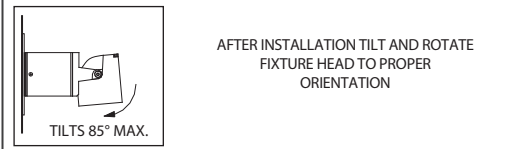

FIGURE 4: CHANGING REFLECTOR (FIG. 4)
- FIGURE 2: CHANGING REFLECTOR (FIG. 4)**
- Remove fixture from mounting surface. Point fixture (A) downward and then lightly press and turn Trim (D) counterclockwise to unscrew and remove Trim (D) with Glass (C) and Reflector (B) from fixture housing (A).
- Twist Reflector (B) until tab aligns with Trim (D). Push up and remove Reflector (B) and Glass (C) (as needed) from Trim (D).
- Replace Reflector (B) with a new Reflector and reverse procedure in steps 1 and 2 above to install trim snug (finger tight) in housing. Do not over tighten trim in housing.